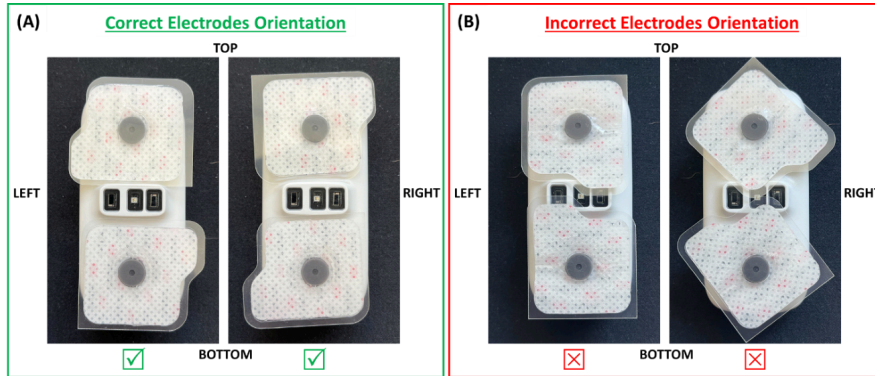

Figure 5: (A) Correct and (B) Incorrect CardioTag Electrodes Orientation
- Attach one wet electrode on each of the metal snaps on the back of the CardioTag. Rotate the electrodes if they cover the windows on the back side of the CardioTag, as shown in (A) of Figure 5: